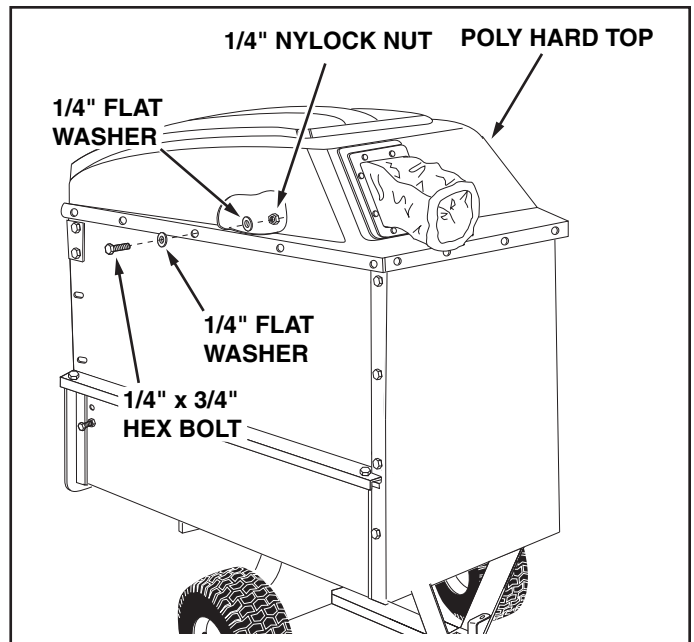

FIGURE 14
- Install the poly hard top using fourteen 1/4" x 3/4" hex bolts and 1/4" flat washers on the outside and fourteen 1/4" flat washers and 1/4" nylock nuts on the inside. **Tighten**. See figure 14.